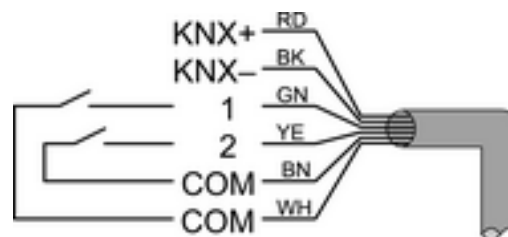

Figure 3
- If necessary, connect potential-free contacts to the inputs (Figure 3).